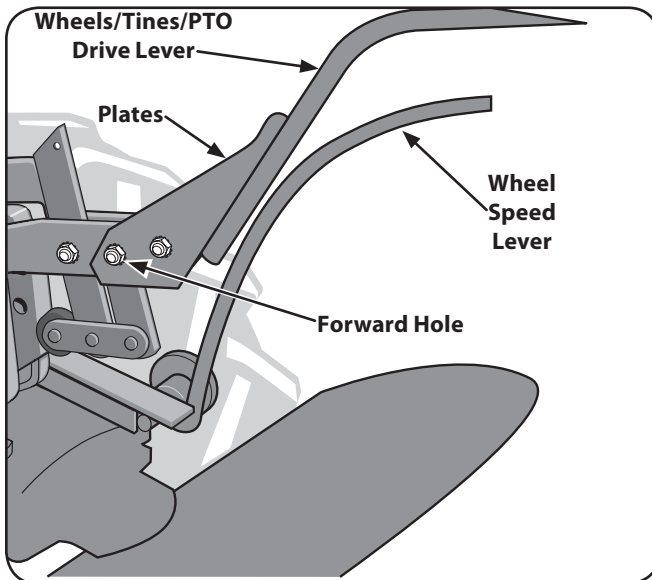

Figure 3-7
3. Slide the plates at the end of the Wheels/Tines/PTO Lever over the yoke plates. See Figure 3-7. To aid in the next step, insert a screw temporarily into the forward most holes of the yoke plates and the lever.